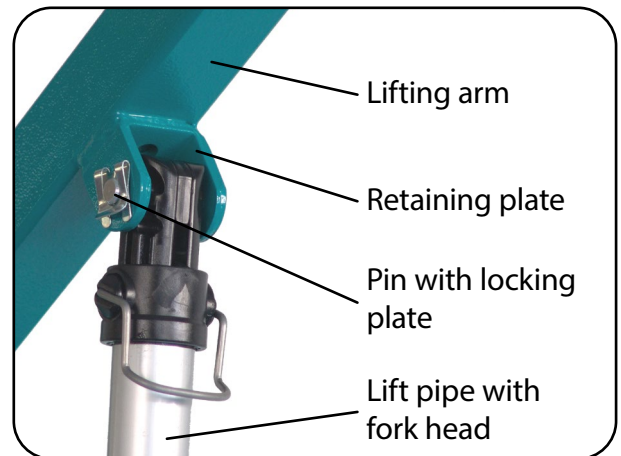

Fig. 6.2.05 – Assembly of the lift drive
7. Remove the bolt with the locking plate from the retaining plate on the lifting arm (Fig. 6.2.05).
8. Raise the lifting arm and fully align the hole of the lift pipe (fork head) with the hole of the retaining plate. Fasten the lift drive to the retaining plate of the lifting arm by inserting the pin (Fig. 6.2.05).
9. Secure the pin with the locking plate (Fig. 6.2.05). To do so, push the locking plate into the groove at the end of the pin. In doing so, the curved end of the plate slides over the chamfer of the pin.